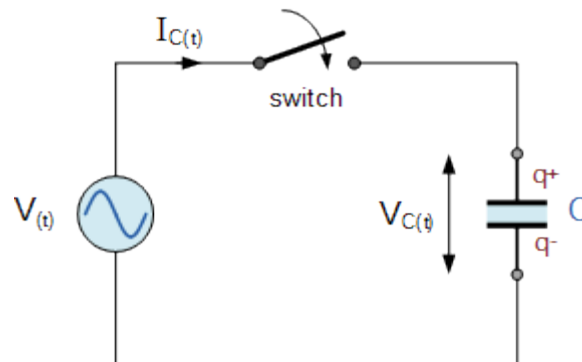

Figure.3.9. AC through pure Capacitive circuit.
The geometric relationship between resistance, reactance and impedance can be represented visually by the use of an impedance triangle as shown in the figure 3.9. Impedance is the vector sum of the resistance and reactance has not only a magnitude (Z) but it also has a phase angle (θ), which represents the phase difference between the resistance and the reactance. Also note that the triangle will change shape due to variations in reactance, (X) as the frequency changes. But the resistance (R) will always remain constant. The capacitive reactance, inductive reactance and impedance for various circuits are given below.